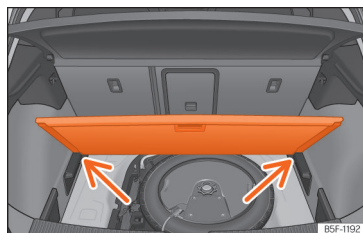

Fig. 182 Variable boot floor: tilted position.
- Rest the floor on its housings »» Fig. 182 [arrows].